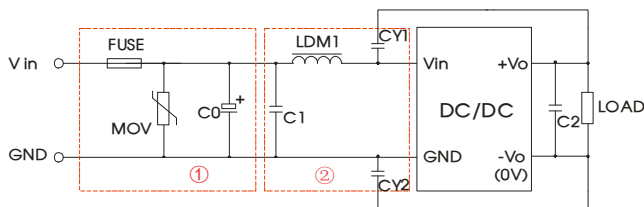

Fig. 3
RE	CISPR22/EN55022 CLASS A (Bare component)/ CLASS B (see Fig.3-② for recommended circuit)
Notes: Part ① in the Fig. 3 is used for EMS test and part ② for EMI filtering; selected based on needs.